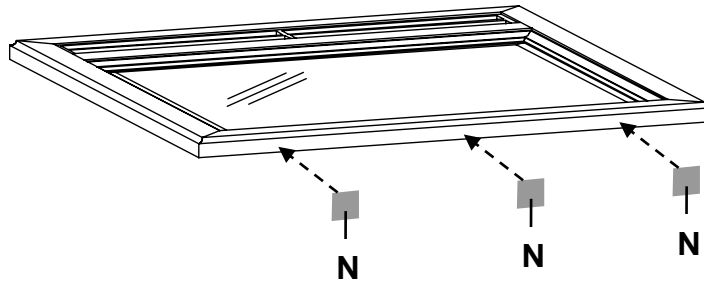

Fig. 5
5. Peel off the backings on the Pad Strips (N) and apply them to the bottom of the Mirror Assembly (A). See Figure 5